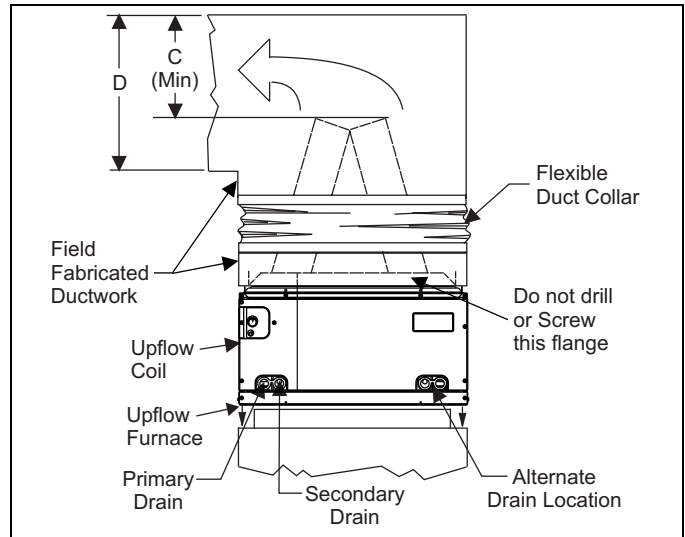

FIGURE 6: PC Series Upflow Coil Installation
1. Position the coil casing over the furnace opening as shown in Figure 6.
Do not drill any holes or drive any screws into the front duct flange on the coil in order to prevent damaging coil tubing. See Figure 6
Dimension “C” should be at least 2/3 of dimension “D”. See Figure 6